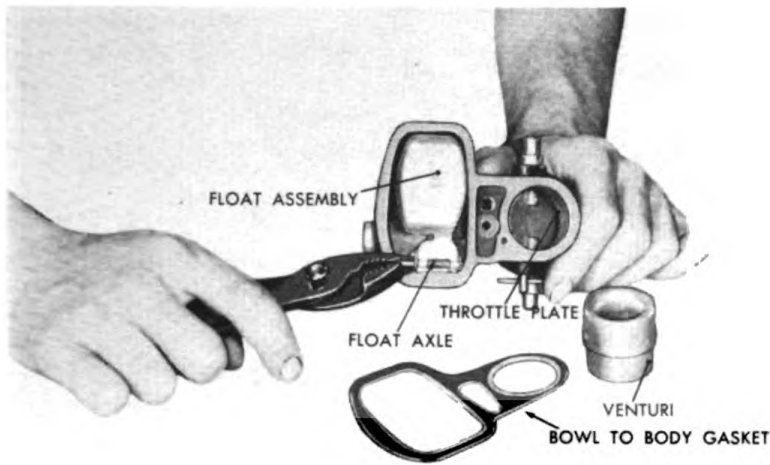

Figure 285. Removing Carburetor Float Axle.
- d. Remove the float axle with small pliers. Note carefully the relation of the float spring and float baffle to the float, if these parts are used, and confusion when reassembling will be avoided. See figure 285.
- f. Check float for correct level. Float should move freely on its axle. The dimensions between the top of the bowl and the body when held in an upside down position should be $1\text{-}\frac{7}{32}$ " plus or minus $\frac{3}{64}$ ". See figure 285.